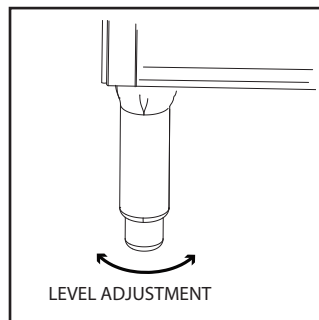

Fig. 2 - Leg Adjustment
3. The dishwasher has 4 adjustable feet for leveling (see Fig. 2).